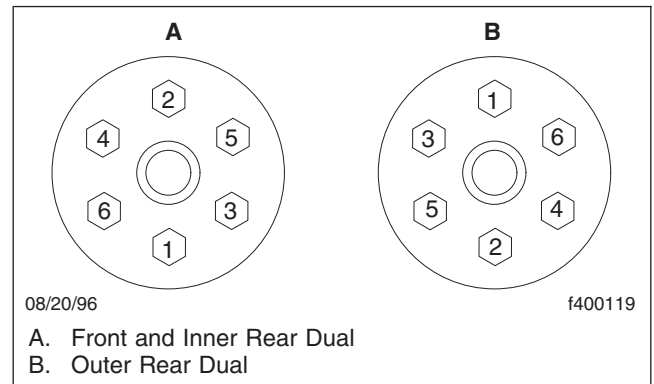
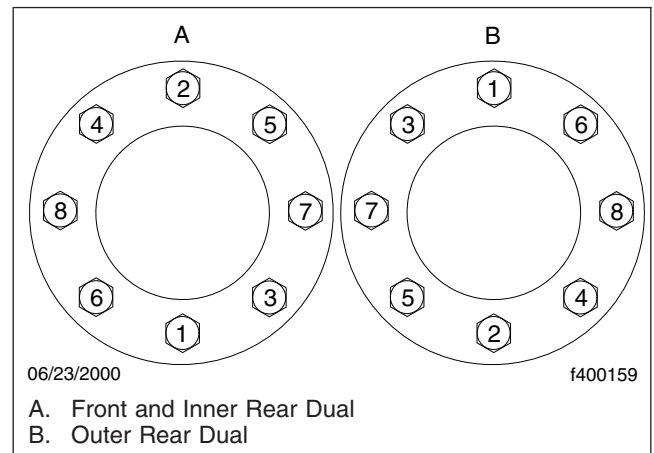
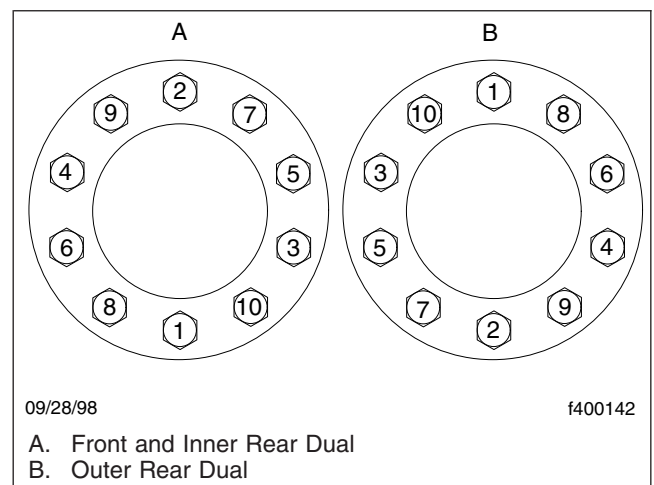

Fig. 1, Wheel Nut Tightening Sequence (6-stud hubs)
Fig. 2, Wheel Nut Tightening Sequence (8-stud hubs)
Fig. 3, Wheel Nut Tightening Sequence (10-stud hubs)
When checking wheel nuts on a dual disc assembly, remove one outer nut at a time, tighten the inner nut, then reinstall the outer nut. Repeat this procedure for all of the inner wheel nuts in the sequence shown in Fig. 1, Fig. 2, or Fig. 3. Then, tighten all of the outer wheel nuts in the same sequence.
- On 6-stud, stud-pilot hubs, tighten the wheel nuts 450 to 500 lbf-ft (610 to 678 N·m). See Fig. 1 for the tightening sequence.
- On 8-stud or 10-stud, hub-pilot hubs with 20-mm studs, tighten the wheel nuts 280 to 310 lbf-ft (380 to 420 N·m). See Fig. 2 or Fig. 3 for the tightening sequence.
- On 8-stud or 10-stud, hub-pilot hubs with 22-mm studs, tighten the wheel nuts 450 to 500 lbf-ft (610 to 678 N·m). See Fig. 2 or Fig. 3 for the tightening sequence.